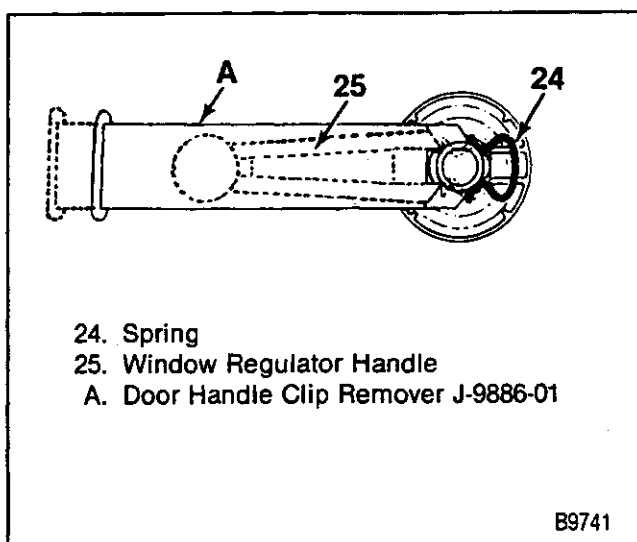

Figure 12—Window Handle Replacement
### Remove or Disconnect (Figure 12)
**Install or Connect (Figure 12)**